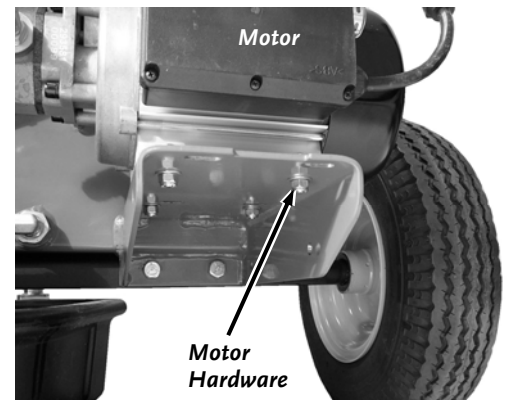

Figure 2
5. Remove the four Bolts, Washers and Locknuts from the Motor Mount with two 1/2" Wrenches and remove the Motor with Pump (**Figure 2**).